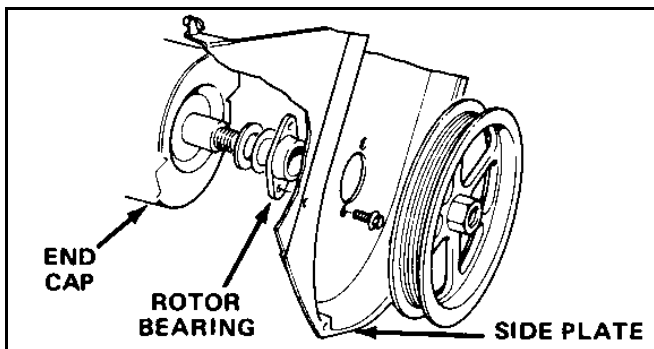

Figure 79 0217-051
- Remove screws securing rotor bearing to left sideplate and remove end cap (Figure 79).